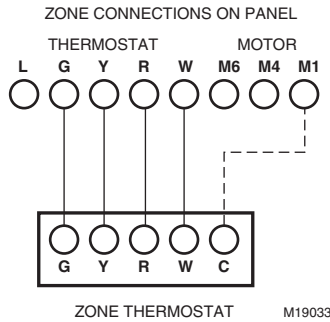

Fig. 1. Typical single-stage thermostat hookup diagram.
1. Connect thermostats as shown in Fig. 1 and 2.